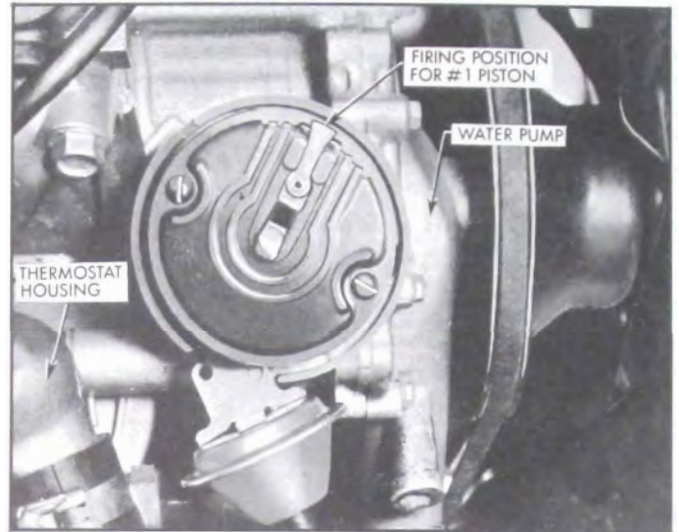

Figure 10-35—Installing Distributor in Engine (V-8)
2. Install distributor in engine with rotor in position to fire No. 1 cylinder and with vacuum control in position to connect vacuum pipe. See Figures 10-35 or 36. Install distributor clamp and bolt with lockwasher, leaving bolt just loose enough to permit movement of distributor with heavy hand pressure. NOTE: If distributor does not seat in engine block, press down lightly on distributor while cranking engine with starter. After distributor tang snaps into slot in oil pump shaft, start timing again from step 1, leaving distributor installed.
2. Make a mark on distributor base in line with center of rotor. Then carefully note the direction the vacuum unit points in relation to engine so that the distributor can be replaced in the exact same position after it is serviced. See Figure 10-35 or 36. CAUTION: If engine is turned over while distributor is out, complete ignition timing procedure must be followed (par. 10-35).